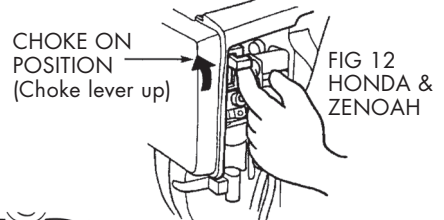

FIG 12 HONDA & ZENOAH
2. Slide choke lever up to full choke ON position (Fig. 12), or rotate lever counterclockwise to choke position (Fig. 12A).